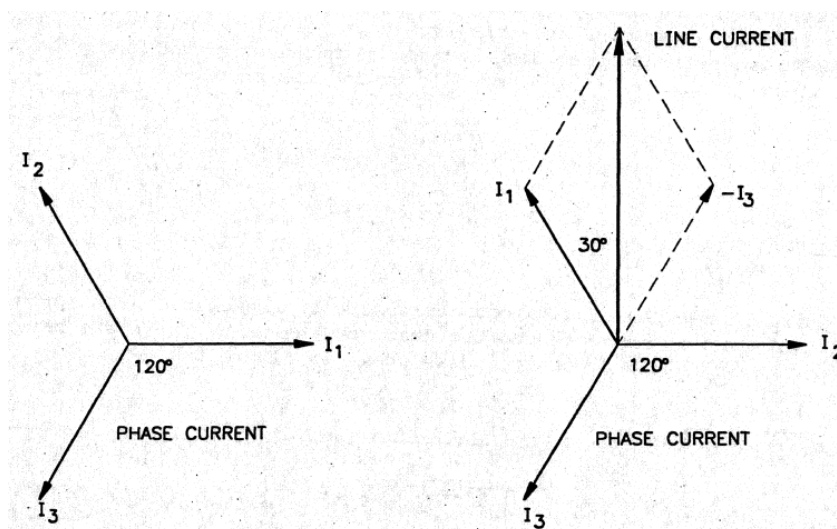

Figure 10 – Current relationships in delta
- 27 The relationships between the currents and voltages in a delta connection are similar to those in a star connection in that the factor of $\sqrt{3}$ needs to be considered, but $\sqrt{3}$ is applied to the CURRENTS rather than the voltages, because two out of phase, phase currents contribute to the line current in each phase. In a delta connection the line current lags the phase current by 30 degrees electrical. The current relationships in a delta configuration are shown in Figure 10.